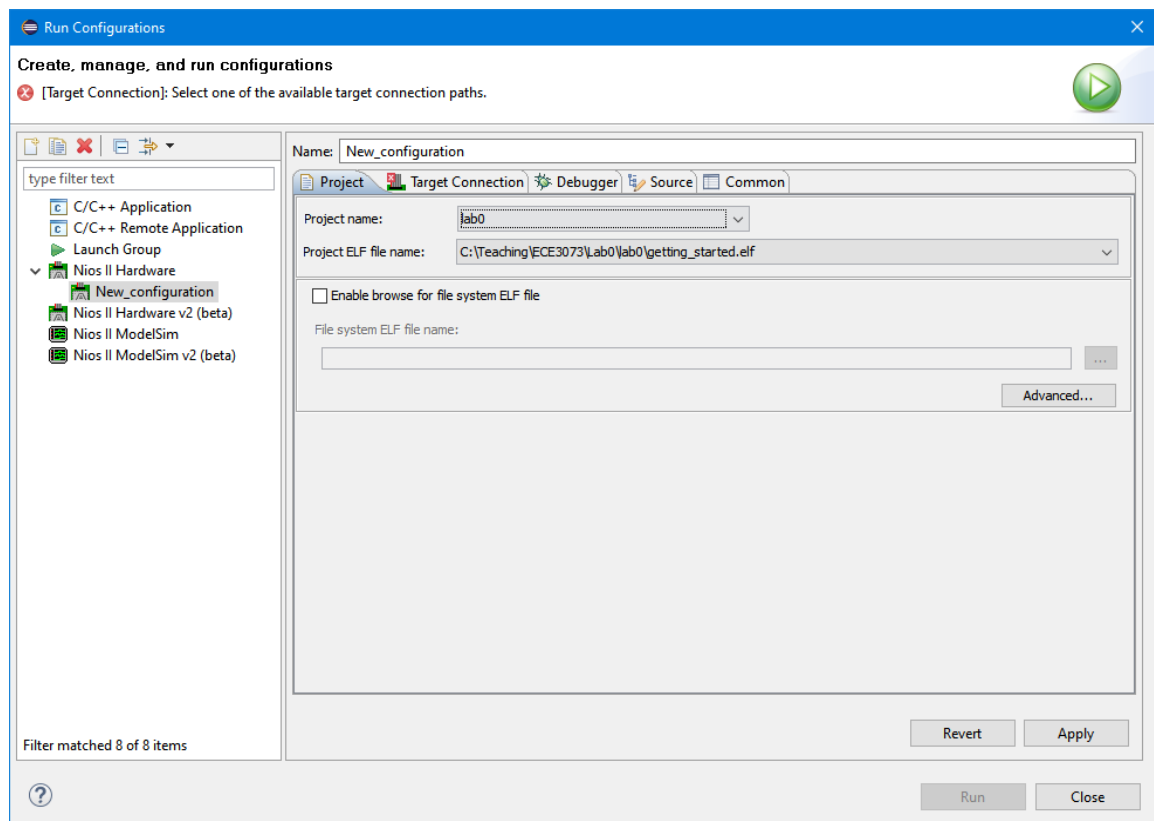

Figure 3: Run configurations
7. Download the compiled file to the board by selecting “Run > Run Configurations”. Double click Nios II Hardware. See Figure 3 as an example of what you will see.